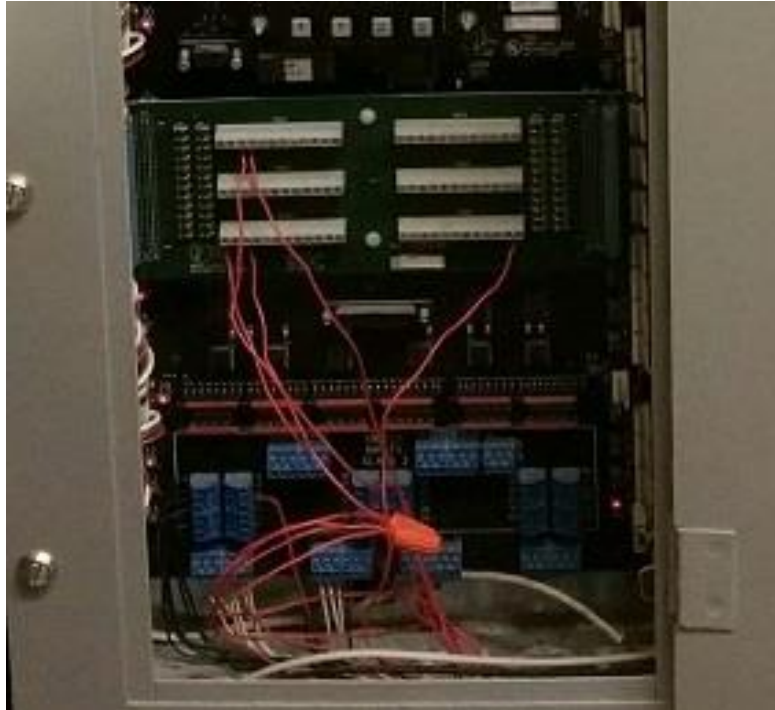

Figure 6 Input and Status Pilot Wiring
- 7) Label all of the inputs and status pilot wires that are connected to the boards located in the lower relay panel as shown in Figure 6.